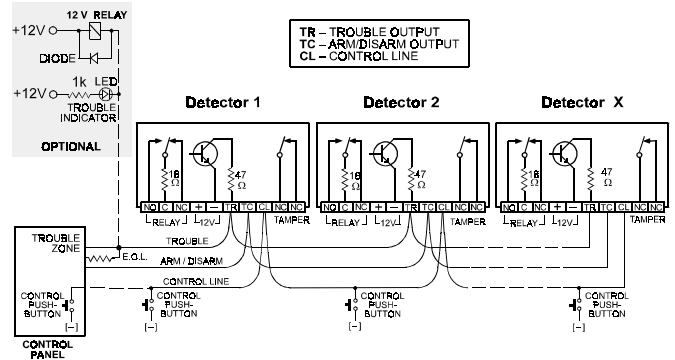

Figure 6. Duet-ST - Wiring Diagrams
Make no splices within the unit and avoid contact between uninsulated conductors and the printed circuit board. Refer to Fig. 6 and connect the wires to the terminal block as outlined below:
3. Connect the TR (trouble) output if required. This is an open collector type circuit, which becomes negative when actuated. Various applications are possible (see Fig. 6):
5. Connect the CL terminal of each DUET-ST to a common wire (the control line). N.O. momentary pushbutton switches (control switches) can be mounted at a convenient location(s) and connected between this wire and the negative (-) terminal of the 12VDC supply (Fig. 6).
Pushbutton control switches, wired to that same control line, can also be used during the Disarm period to select four useful functions. The control switches should be of the open-circuit momentary pushbutton type, and must be wired between the control line and a -12 Vdc point (see wiring diagram - Fig. 6).